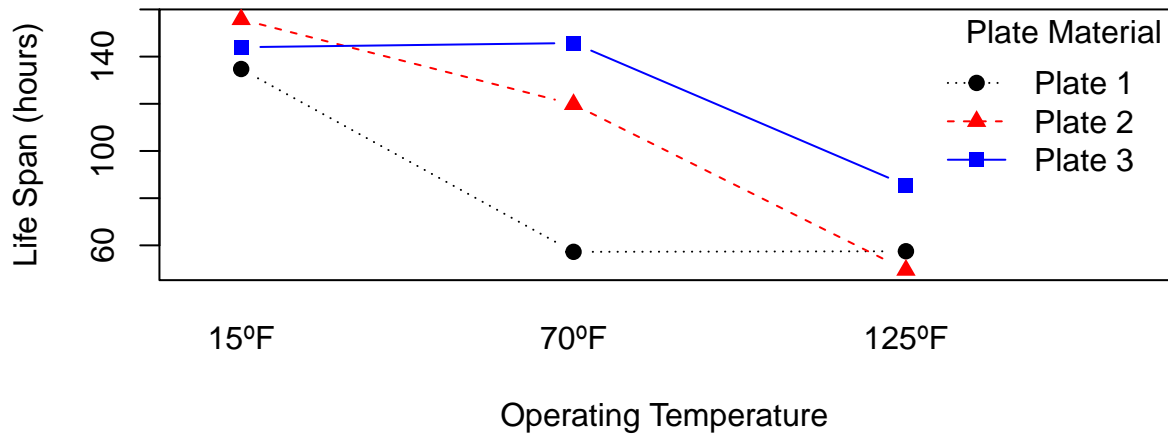

Figure 4: Interaction Plot using base R
4.2.1.1 Example Write up From Figure 4, we can see that there is some interaction between the operating temperature and plate material. For example, going from 15°F to 70°F, produced a drop in life span for materials one and two but for plate three there is a slight increase in life span. As we move from room temperature (70°F) to the high of 125°F, this time plate material one appears to hold steady in life span while the other two materials experience drops in life span.